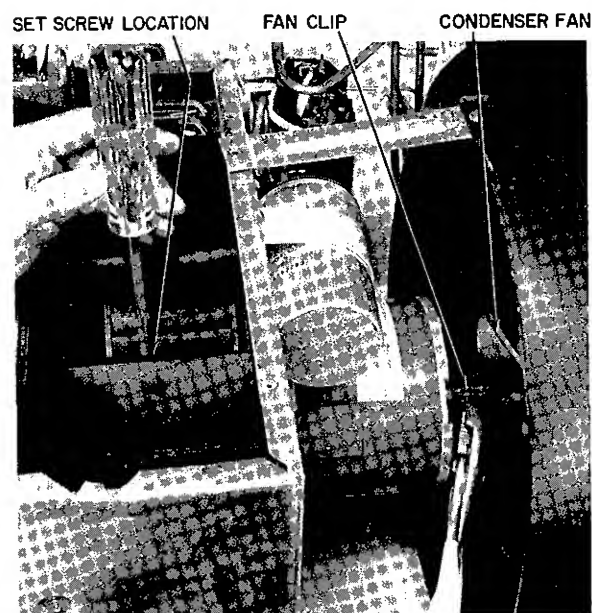

Fig. 14 — Blower Set Screw and Condenser Fan Clip
- a Loosen set screw on blower wheel. See Fig 14.
- b Remove clip from condenser fan. See Fig 14.
14 Condenser Fan — See Condenser Fan in Fig 14
- b Remove clip from condenser fan as shown in Fig 14.
- 15 **Evaporator Blower** — See Evaporator Blower in Fig 14